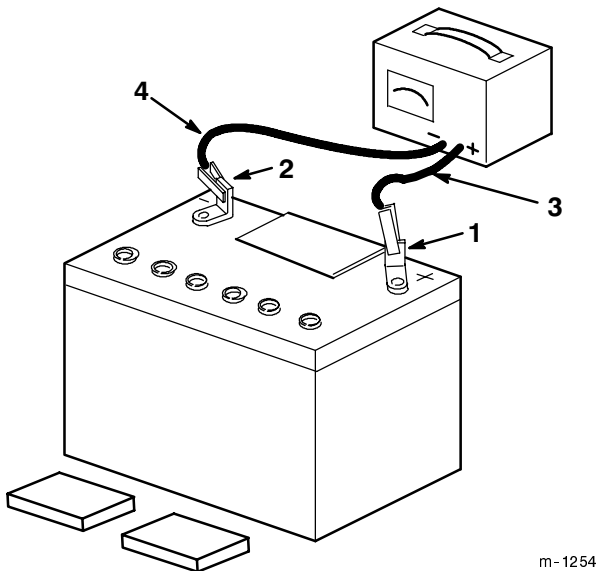

Figure 6
- Leave the covers off and connect a 3 to 4 amp battery charger to the battery posts (Fig. 6). Charge the battery at a rate of 4 amperes or less for 4 hours (12 volts).
- When the battery is fully charged, disconnect the charger from the electrical outlet then from the negative and positive battery posts (Fig. 6).